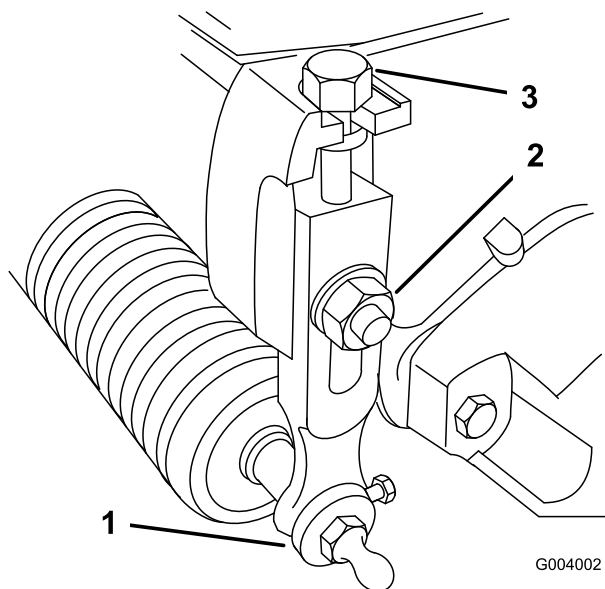

Figure 54
1. Loosen locknuts securing height-of-cut arms to cutting unit side plates (Figure 54).